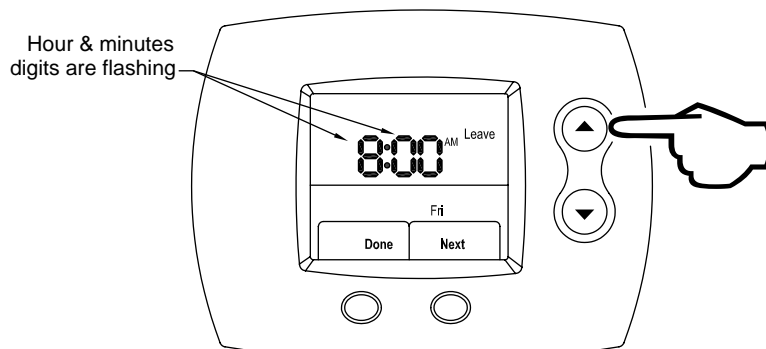

Figure 127
Step 10: Press the **UP** (increase time by 15 minutes) or **DOWN** (decrease time by 15 minutes) buttons to edit the Leave period start time. The time increments in 15-minute intervals just as it did for the Wake period. This is shown in Figure 127.